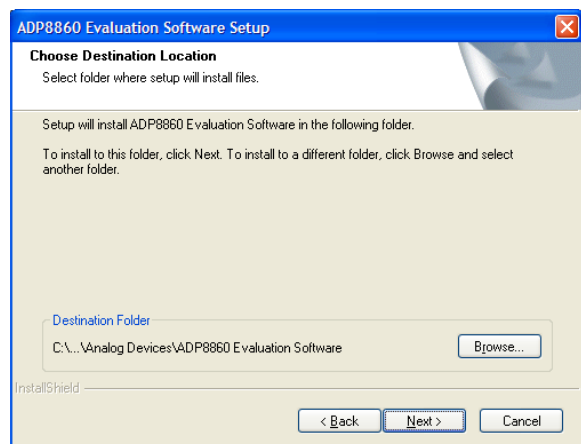

Figure 4. Choose Destination Location
3. Click **Next>** to install the files to the default destination folder or click **Browse...** to choose a different file (see Figure 4).